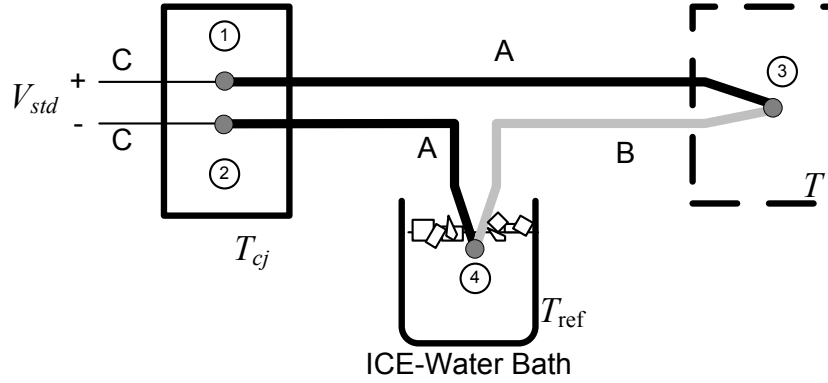
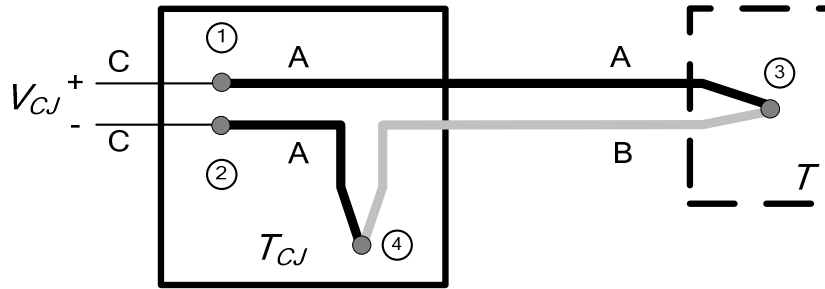
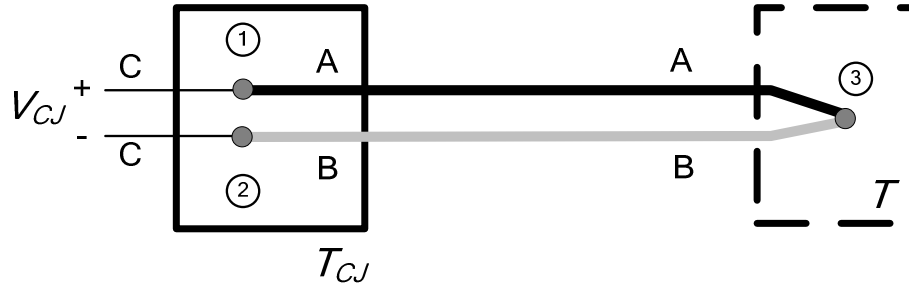

Figure A1.
Figure A2.
Figure A3.
The classical thermocouple configuration is one that uses an ice-water bath to set the reference temperature as shown in Figure A1. Points 1 and 2 are kept at the same temperature by using an “isothermal block”, which is an insulator used to make sure that both points are at the same temperature  $T_{CJ}$ , often referred to as the “cold-junction” temperature.
The voltages across points 1, 2, 3 and 4 in Figure A1 are given by Seebeck voltages  $V_1$ ,  $V_2$ ,  $V_3$  and  $V_4$ , respectively. Note that  $V_1 = -V_2$ , since points 1 and 2 are at the same temperature but the metals are polarized in opposite directions. Further, points 3 and 4 also involve the same pair of metals but polarized in the opposite directions, i.e.  $\alpha_{AB} = -\alpha_{BA}$ . Applying Kirchhoff's law and Seebeck's law given in equation (1),
The configuration given in Figure A1 is not convenient in most practical applications because of the burden of maintaining the ice-water condition of the bath. As an alternative, one could change the reference to be  $T_{CJ}$ , the “cold-junction” temperature present in the leads, as shown in Figure A2. This changes equation (A1) to be
The configuration given in Figure A2 can be simplified further by applying the law of intermediate metals (see section I.A.2) in the sub-circuit involving points 2 and 4. Metal A is an intermediate metal between metal C and B. Since points 2 and 4 are the same temperature, the law of intermediate metals state that metal A can be removed while merging points 2 and 4. This is the simplified cold-junction thermocouple configuration shown in Figure A3, where  $V_{CJ}$  measured in the configuration given in Figure A3 will be the same  $V_{CJ}$  measured as that in Figure A2.
Regardless of the configurations shown above, the main application of thermocouples is to measure the temperature  $T$  at point 3. As we had mentioned earlier, the data  $V_{std}(T)$  is often available for many commercially available thermocouples. If configuration in Figure A1 is used, we need to just read off the value of  $T$  that correspond to the voltage  $V=V_{std}$  measured at the leads.
For the simplified cold-junction configuration given in Figure A3, we can use equation (A2) together with available standard  $V_{std}$  data (table or function) as follows:
where  $T_{CJ}$  and  $V_{CJ}$  are the measured cold-junction temperature and voltage, respectively, shown in Figure A3.